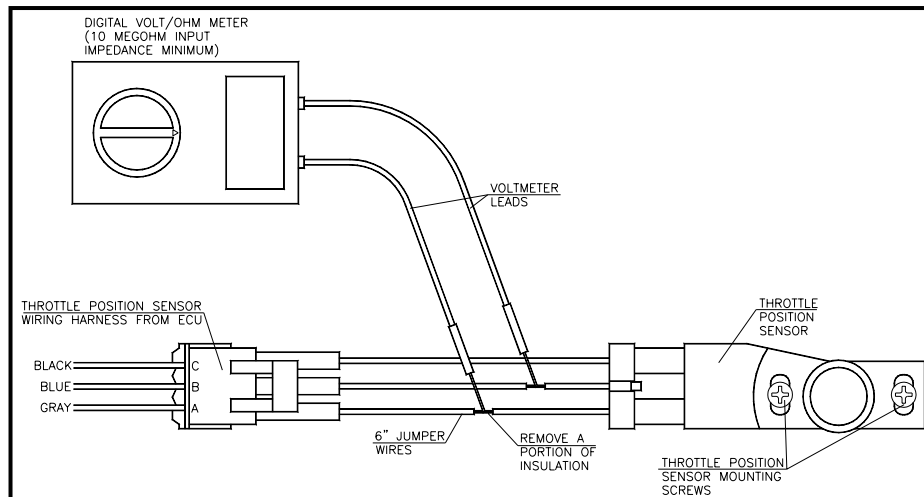

Figure 11
- 2 - Remove a portion of the insulation on the jumper wires connecting to both the black and the blue wires leading to the TPS as shown in Figure 11.